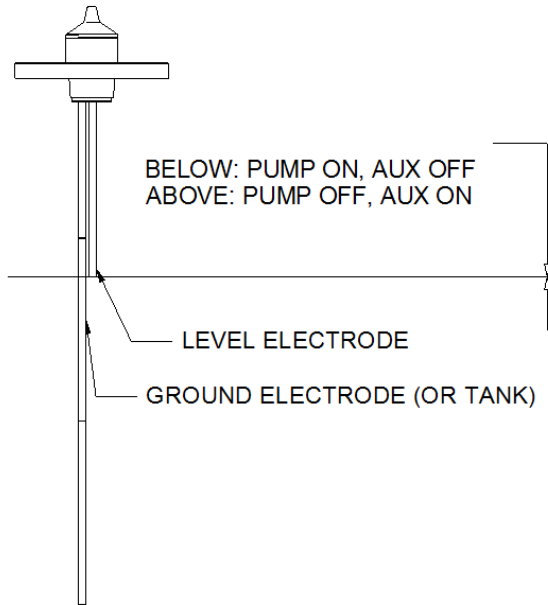

Figure 6. Single level service (pump normal closed, aux normal open)
i. Single Level Service (Refer to Figure 6)